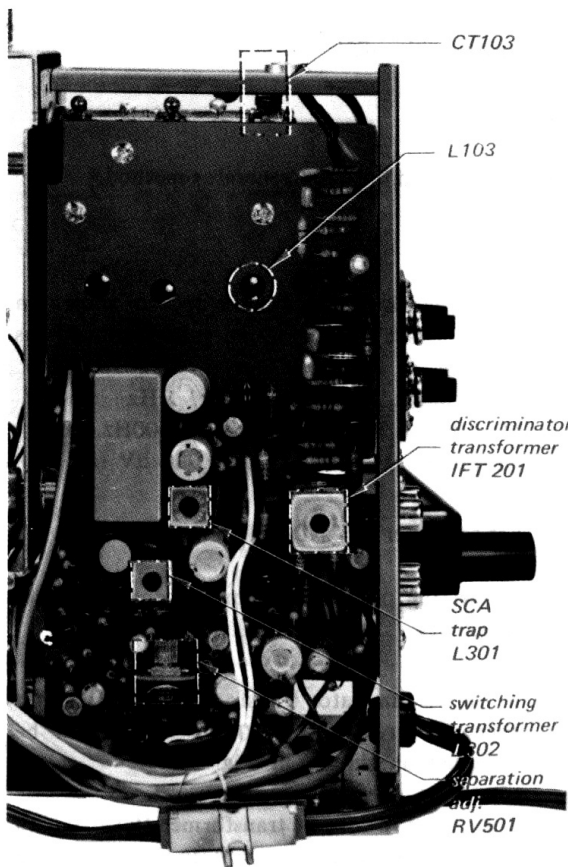

Fig. 5-10. Parts location
2. Check the dial scale for a calibration accuracy of ± 500 kHz from the carrier frequency of the station. If the dial-accuracy deviation exceeds this limit, turn the local-oscillator coil L103 as shown in Fig. 5-10 slightly until optimum dial calibration is obtained.
- Turn the top core of switching transformer L302, to obtain maximum output at left channel. See Fig. 5-10. Note that this adjustment has a close relationship with stereo distortion.
- The output-level to residual-level ratio represents the separation. Adjust separation adj. control RV501 (see Fig. 5-10) for minimum residual level. Check the right channel for separation. Usually, about an 8 to 9 dB difference in channel separation exists. Readjust RV501 for minimum difference between left and right-channel separation. While doing this, remember that the output level also changes according to the setting of RV501.